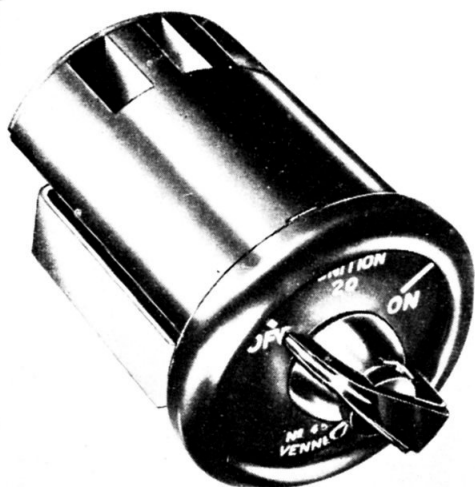

Fig. 1. Time switch, Type PTC/DH/20
1. The time switch, Type PTC/DH/20 (*fig. 1*) is a clockwork-driven ignition switch in which the action of setting the pointer winds the spring and starts the timing period of 20 seconds.